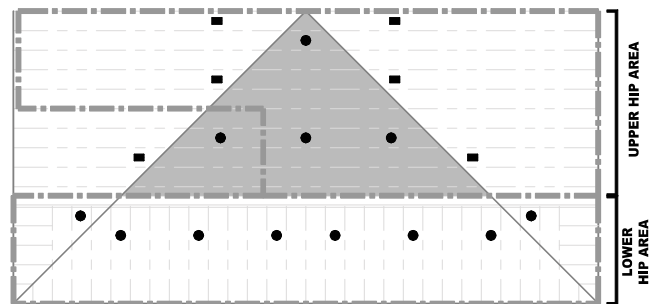

FIGURE 16B
- Calculate the 8 most demanding contiguous sprinklers along the eave. This may include sprinklers on both sides of the hip line as shown. See FIGURE 16B.
If there are 4 sprinklers or less in the shaded area (FIGURE 16B):
- Calculate up to the 8 most demanding contiguous sprinklers in the "Upper Hip" area. This may include sprinklers on both sides of the hip line as shown. See FIGURE 16B.